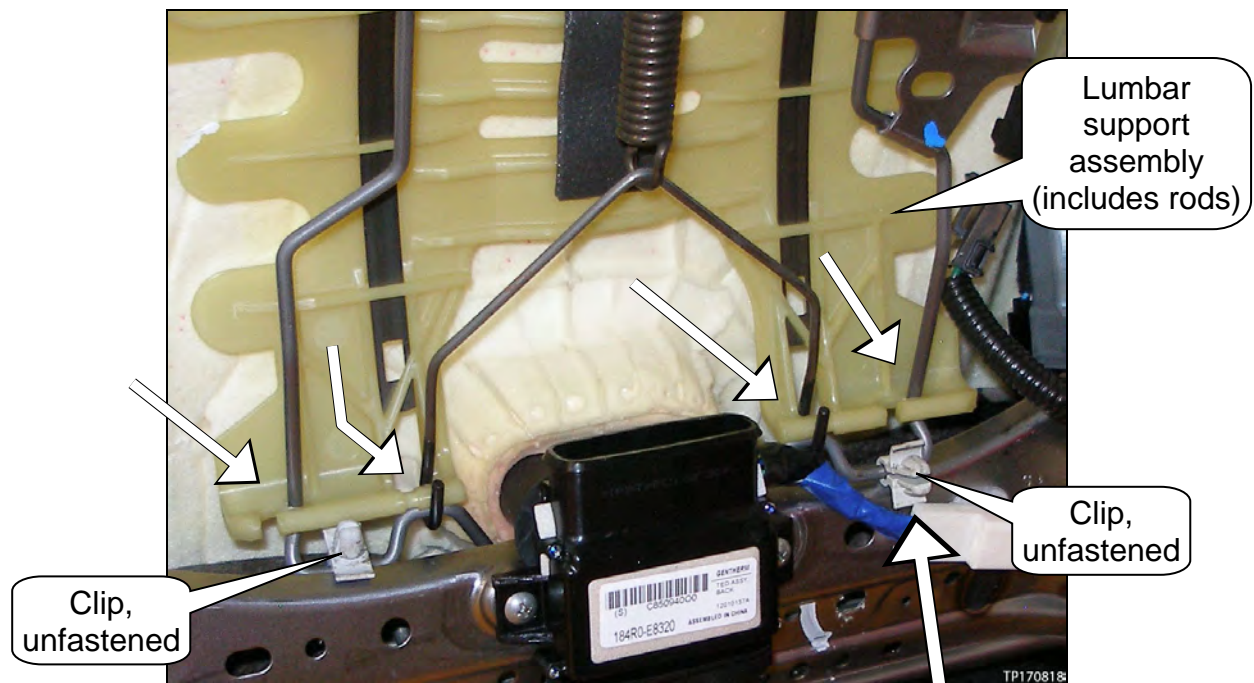
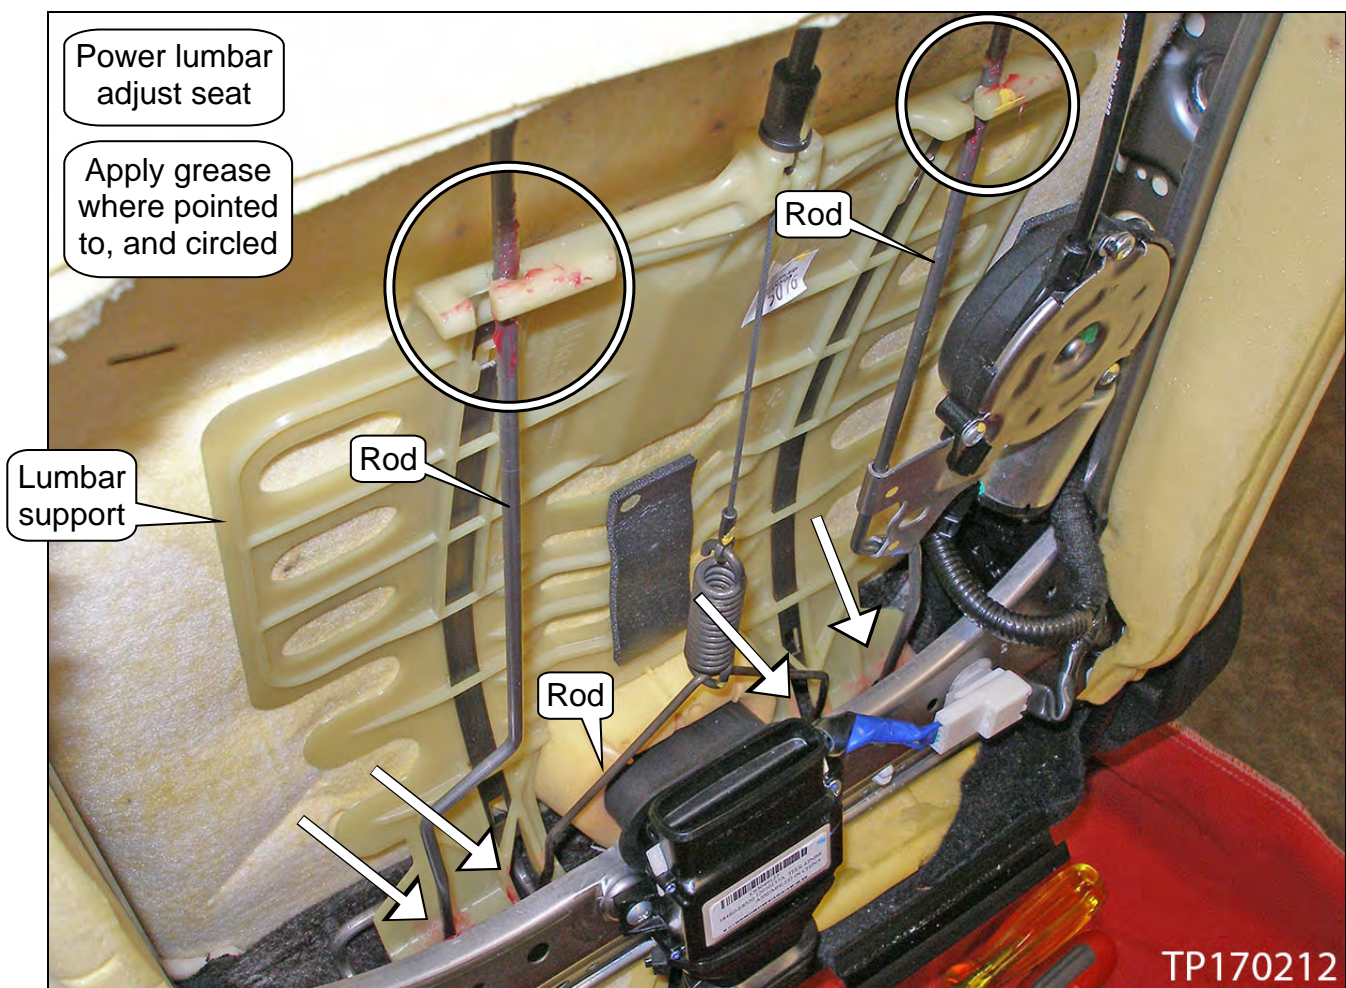
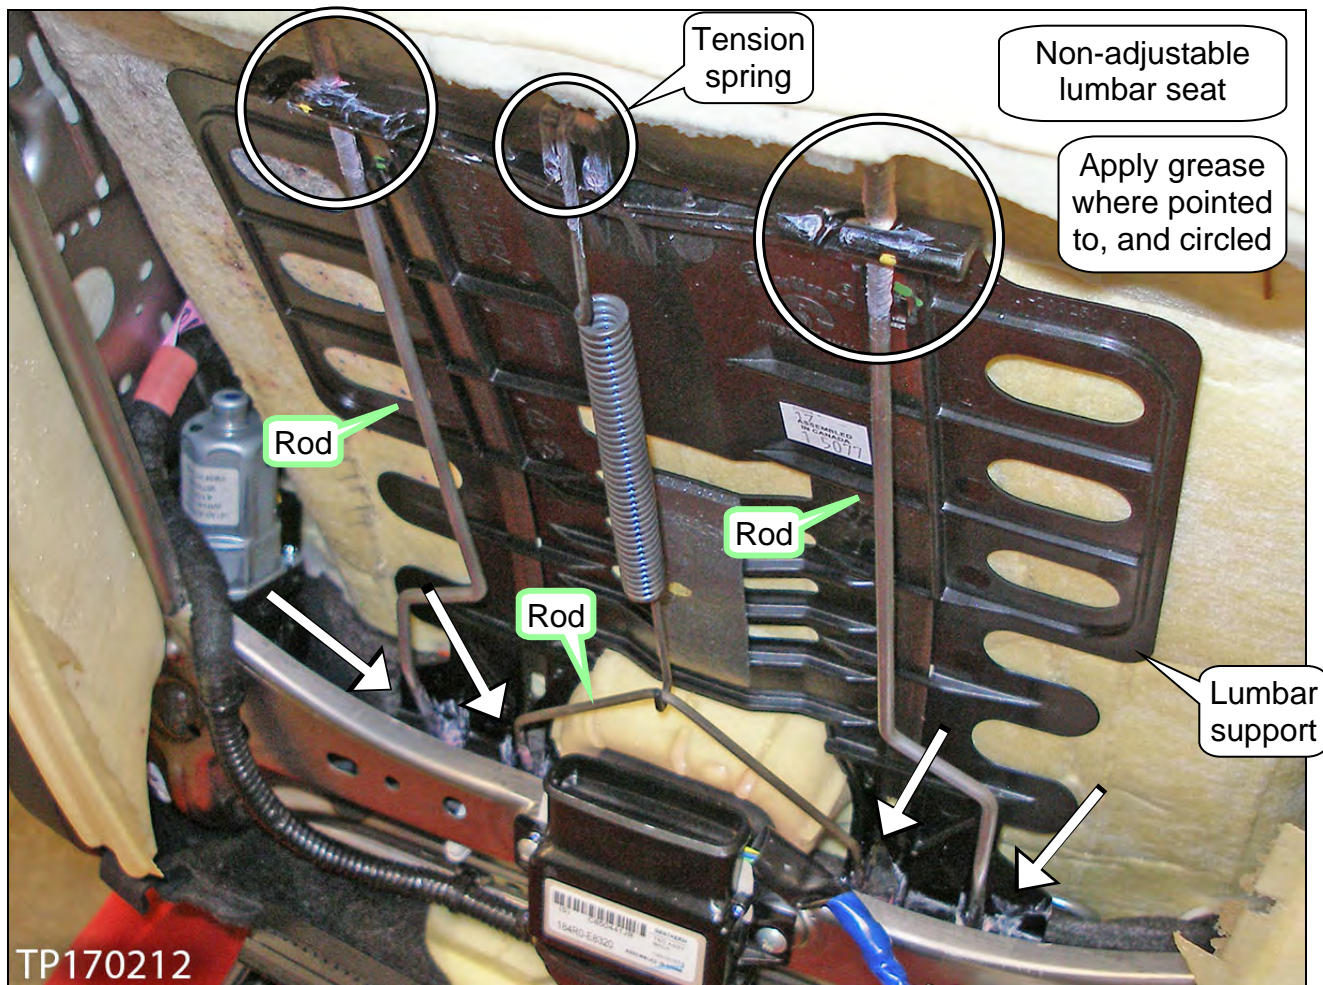

Figure 17
Figure 21
Figure 22
8. Lift the lumbar support assembly (see Figure 17 below).
NOTE: In steps later on in this bulletin, grease will be applied to specific areas of the lumbar support assembly. The arrows in Figure 17 show some of these areas.
9. Remove the two (2) lower clips from the rods (see Figure 17 and 18).
- See page 10 Figure 17, Figure 21 below, and page 13 Figure 22, as it applies.
- Figure 21 and 22 show a driver seat with power adjust lumbar and a non-adjustable lumbar seat, respectively. Your vehicle’s seat configuration may differ slightly.
- Non-adjustable lumbar seats only: Also apply grease to the end of the return spring (see next page, Figure 22).